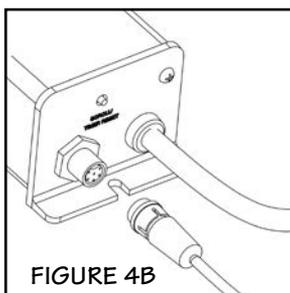
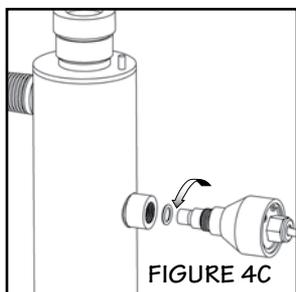

FIGURE 4B
FIGURE 4C
1. Before removing the sensor assembly, follow the steps as outlined in the "Quartz Sleeve Replacement And/Or Cleaning" section. The quartz sleeve should be cleaned at the same time as the UV sensor. Disconnect the UV sensor from the Silver "Plus" (BA-ICE-SM) controller by disconnecting the sensor cable, turning the collar counter-clockwise (Figure 4B). To remove the sensor, grasp the body of the sensor and rotate counter-clockwise (Figure 4C) until the sensor is free of the threaded sensor port.
3. Ensure sensor lens is rinsed free of cleaning solution. Carefully reassemble the sensor assembly with o-ring (Figure 4E) into the sensor boss. Screw the sensor into the boss and tighten to achieve a water-tight seal. **DO NOT OVER TIGHTEN.** Attach the sensor cable to the Controller and return to service (Figure 4B).